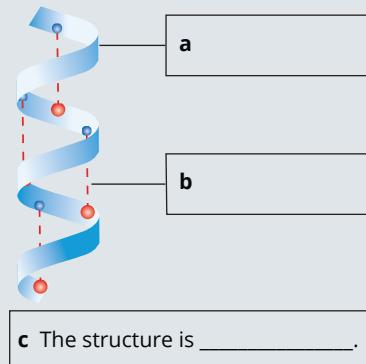

FIGURE 15.8.3 Bonding and structure.
- 6 Identify the type of bonding represented by labels **a** and **b** of the diagram in Figure 15.8.3. Identify the type of secondary structure in **c**.